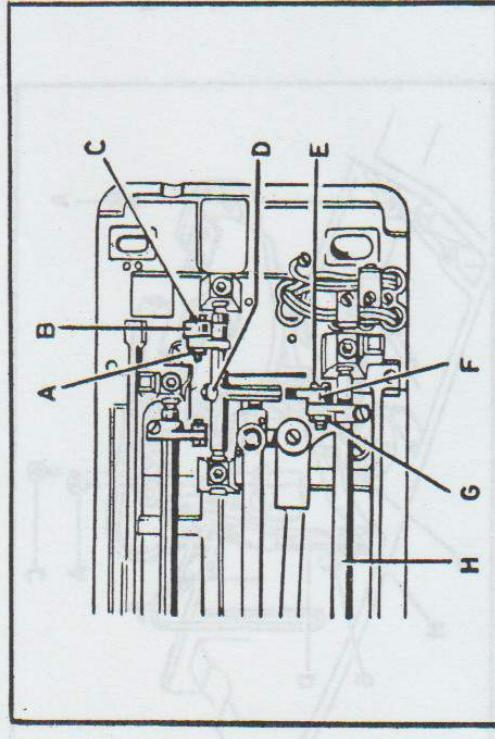

Fig. 48
- take off taper screws C, E and I (fig. 48), after loosening nuts A, G and L;
- connect rod B (fig. 48) and lever F with the links of the feed shafts H by means of the two taper screws C-E, which must be screwed thoroughly; then loosen them by about half a turn, and lock them with nuts A-G; assemble the rod and connect it with the equalizer by means of the taper screw;
- remove the eccentric lever F and the connecting rod (fig. 48);